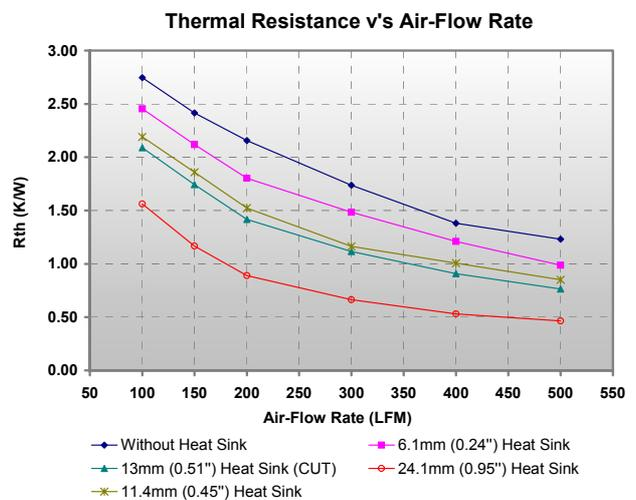

Figure 53: Thermal resistances at laminar airflow
- The value of  $R_{th_{BP-A}}$  allows to determine the required airflow or heat sink using Figure 53.
- 1 The thermal resistance for a given airflow and heat sink can be found in figure 53